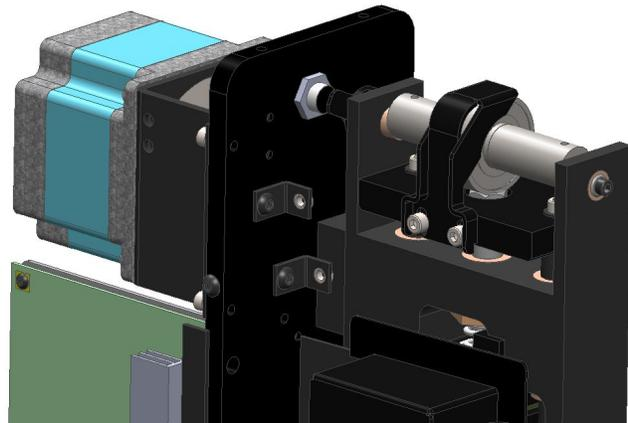

FIGURE 21
3. Loosen screws shown in figure 21.